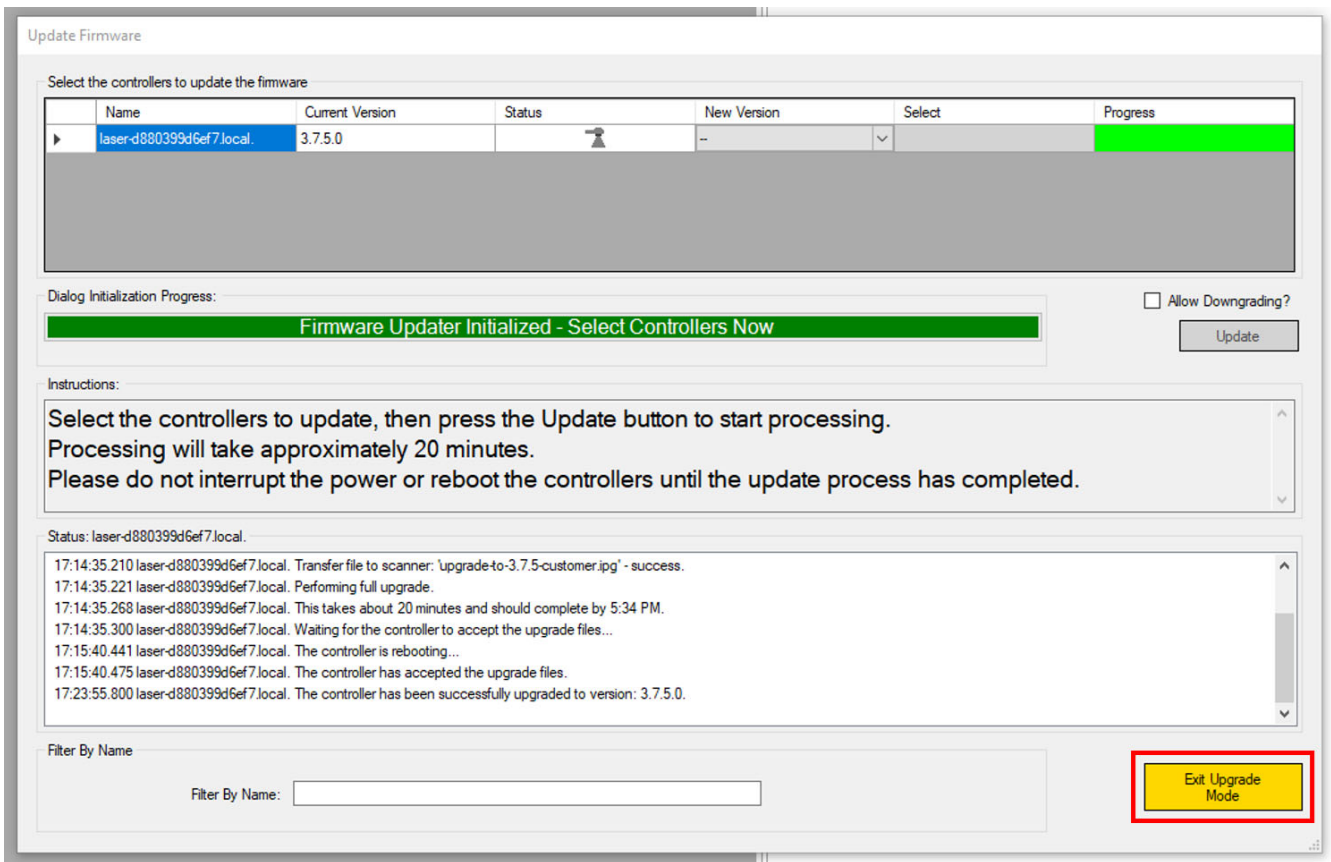

Figure 378: Closing the Update Firmware Window
- Once the update is complete, you can close the Update Firmware window by clicking the **Exit Upgrade Mode** button. See Figure 378 (below).